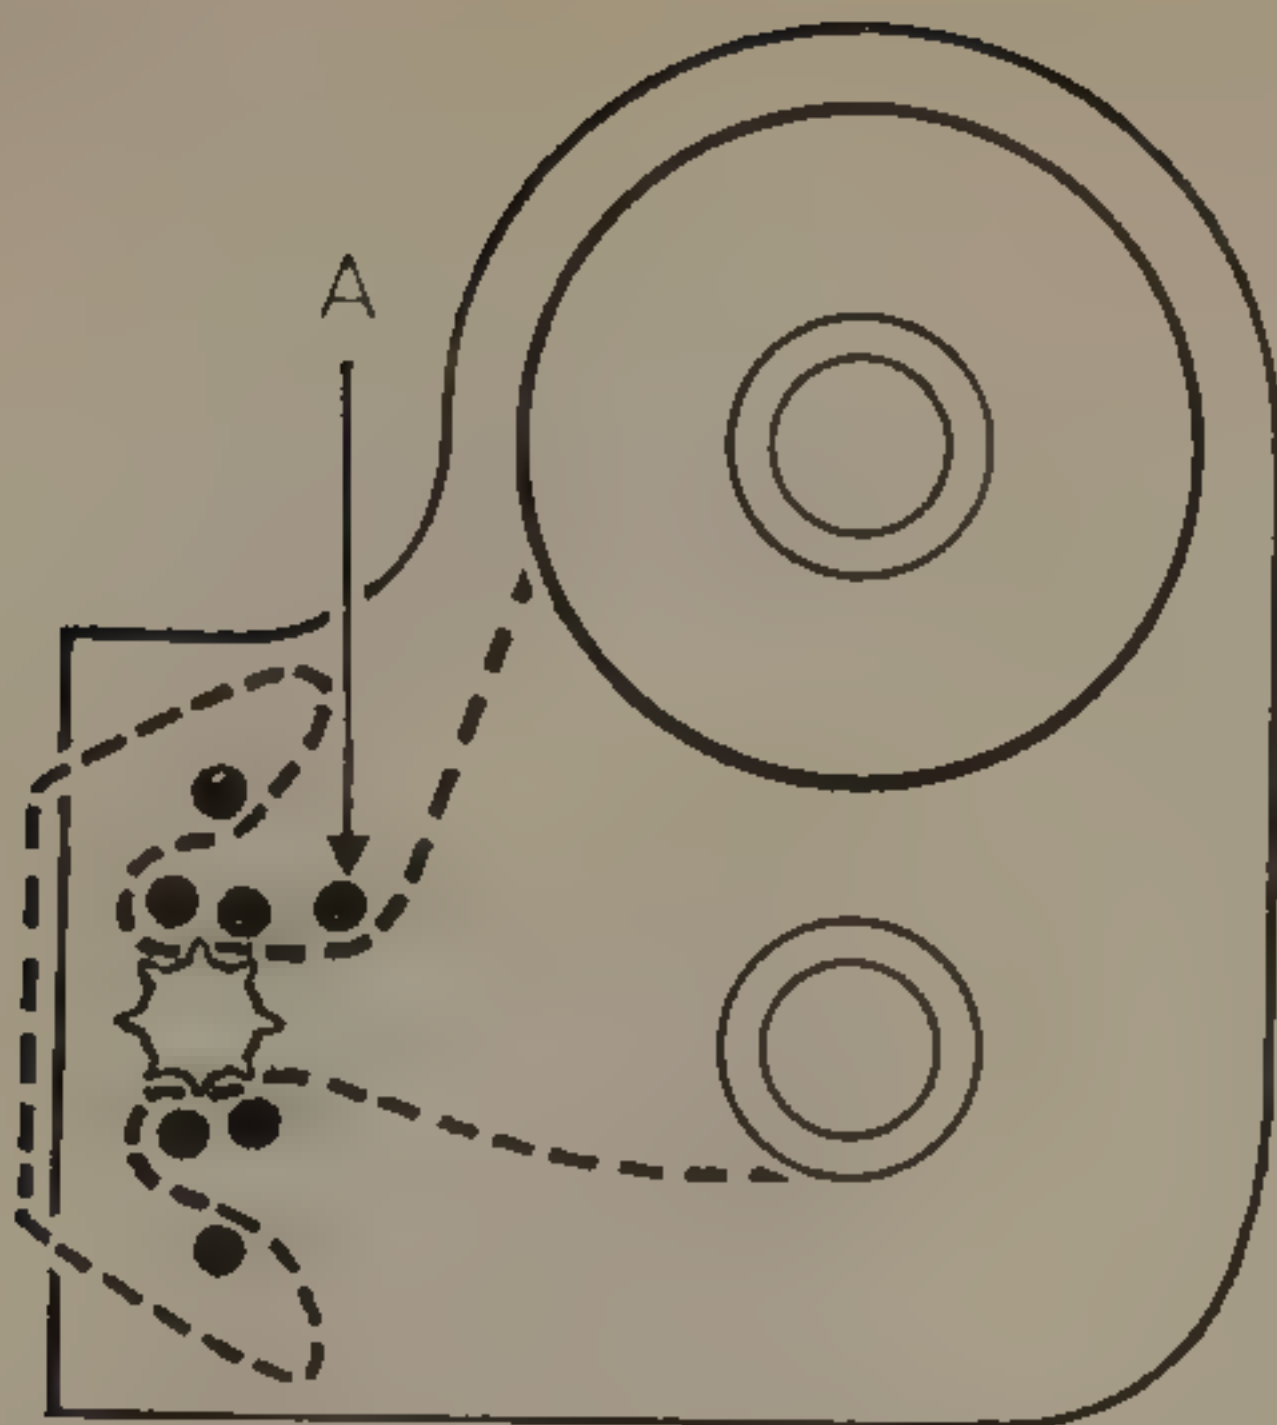

Fig. 12. Film path in Eclair Cameflex CM3 and Scope magazine showing formed loops, ready for attachment to camera.
- (iii) insert the film (wound emulsion out) on the top shaft, so that it will unwind anticlockwise (see Fig. 12);